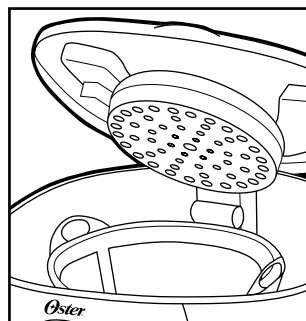

Figure 5
2. Place the Oster® permanent filter or if you prefer a 10 cup paper basket-style filter into the removable filter basket (Figure 5).